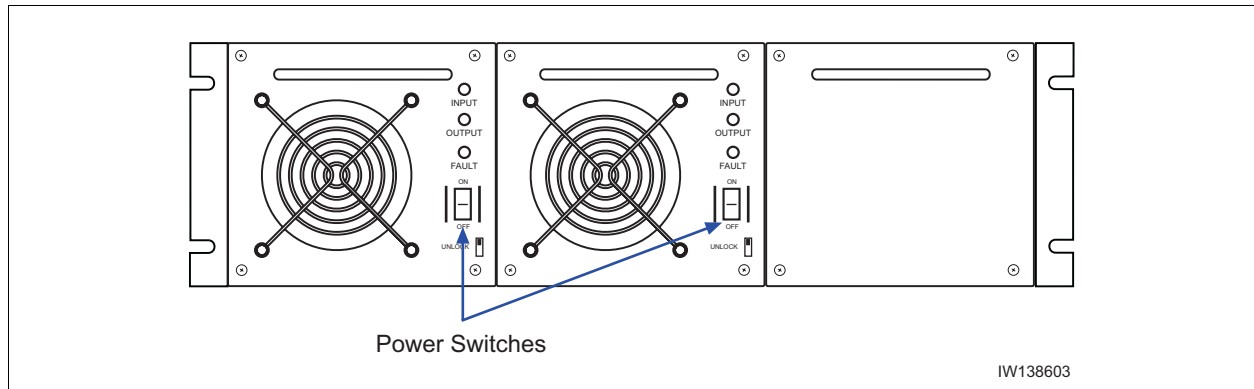

Figure 2-13: AC Power Supply Module ON/OFF Switches
- 2 Make sure that the power switch located on all power supply modules is in the OFF position. See Figure 2-13 for the location of the power supply power switches.